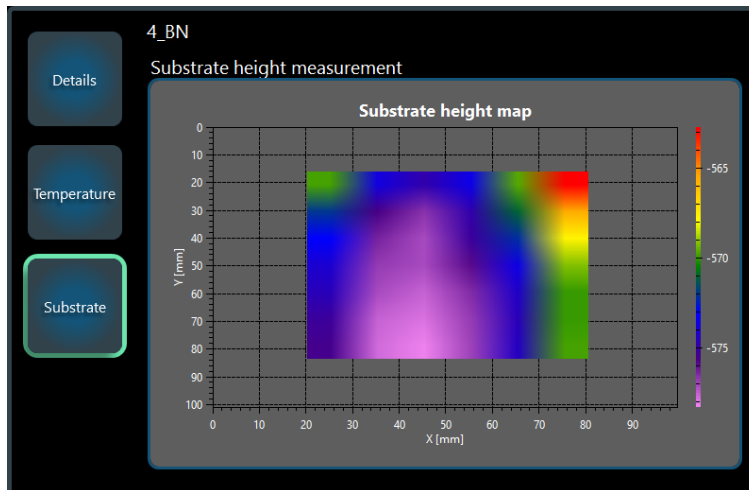

Figure 4-14 Substrate height map
2.3. If Hybrid or Fixed focus control mode is used (see **"Automatic Focus control settings"** on page 37), click **Substrate** to see a height map of the substrate, see **Figure 4-14** below.